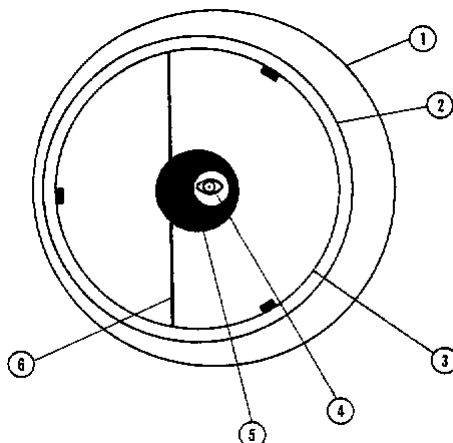
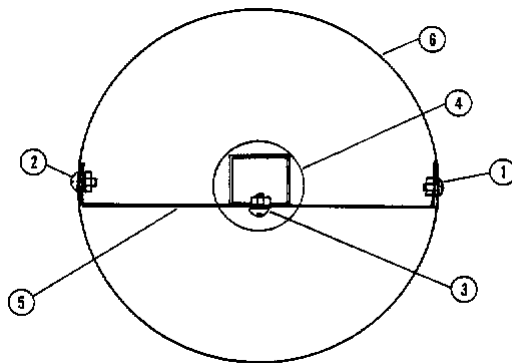
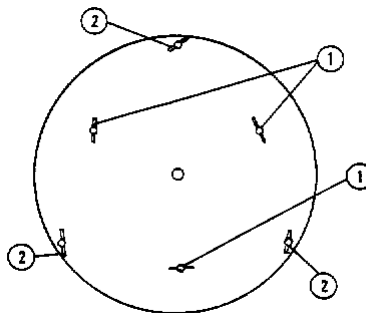

FIG. 2: Collimation of the DS-10 Optical System
FIG. 3: The Secondary Mirror System (Looking down the optical tube toward the primary mirror)
FIG. 5: Primary Mirror Cell (As seen from behind the primary mirror.)
Fig. 2 shows a correctly collimated DS-10 telescope, as it appears when viewed through the focuser with the eyepiece removed. To check and, *if necessary*, set the optical collimation follow these steps:
**Step 1:** Observe through the focuser, without an eyepiece, and with your body oriented so that the telescope's primary mirror is to your left, and the open-end of the telescope tube is to your right. The secondary mirror (circle 2, Fig. 2) should appear slightly offset to the left, as shown in Fig. 2. If the secondary mirror does *not* appear correctly offset, then slightly loosen the secondary-mirror-holder's attaching screw (see (3), Fig. 3), and move the secondary mirror so that this mirror appears offset as shown in Fig. 2.
**Step 2:** Center the primary mirror (circle 3, Fig. 2) in the secondary mirror. This centering, if necessary, is accomplished by loosening slightly screws (1) and (2), Fig. 3, so that the single-strut steel vane, (5), Fig. 3 may be pivoted up or down. In addition, loosening screw (3), Fig. 3, permits lateral centering of the primary mirror in the secondary mirror. Re-tighten all screws when the required centering is accomplished.
**Step 3:** Turn the wing nuts located on the back side of the primary mirror cell (see Fig. 5), so that the dark circle, (5) Fig. 2, is centered relative to the primary mirror, (3) Fig. 2. (These wing nuts adjust the tilt-angle of the primary mirror.)